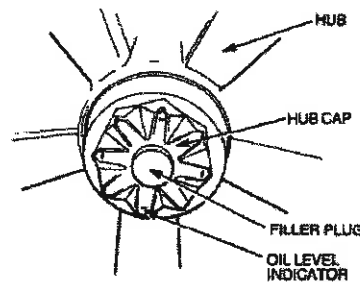

Figure 20 Hub Cap Oil Level Indicator
- s. Fill the hub cap and hub cavity with OEP-220 oil to the level indicated on the cap (Figure 20).